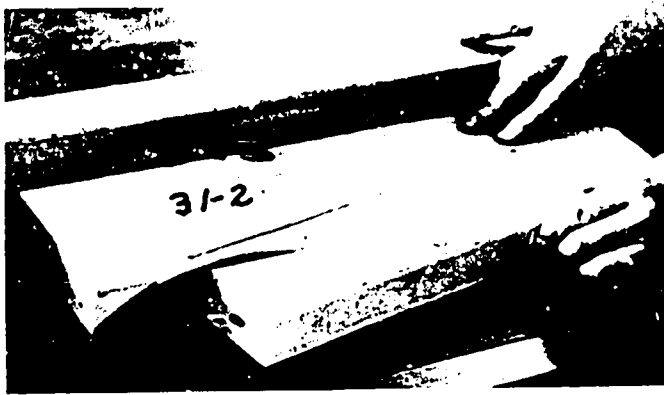

Fig. 31-4. Cutting the Taper on the Circular Saw Using Fixture
3. Cut taper, using Jig 31-2. See Figs. 31-4 and 31-5.